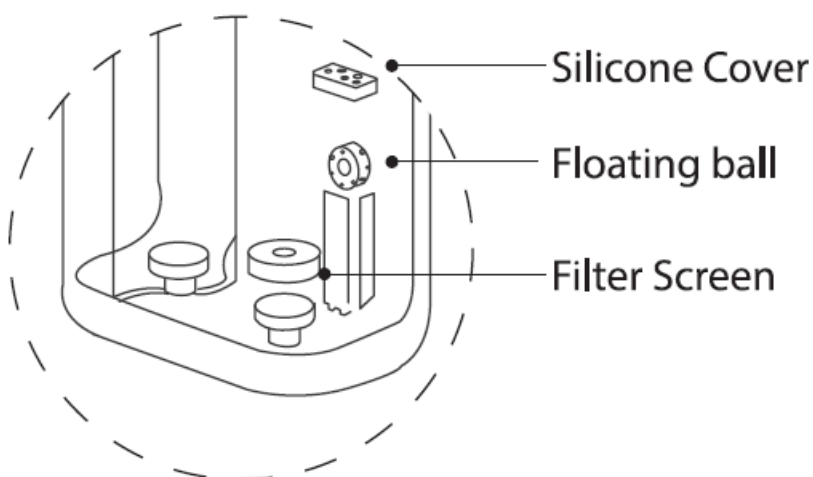

Figure 1
1. Pull out the silicone cover of the floating ball and then take out the floating ball. (Figure 1)
2. Pull out the the filter screen in the same direction, as shown in the figure. (Figure 1)